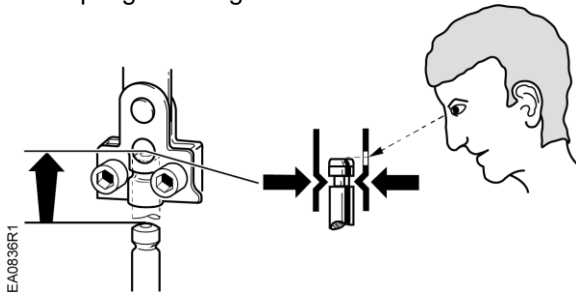

Figure 3. Proper Alignment of the Valve Stem to the Linkage Stem Coupling.
3. Align the valve stem with the linkage stem coupling. See Figure 3.
4. Insert the valve stem into the linkage stem coupling. See Figure 3.